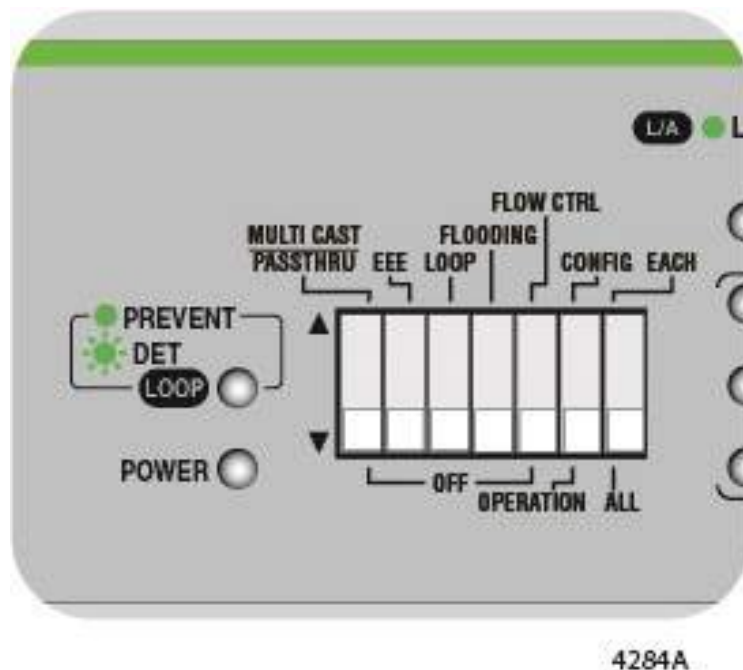

Figure 46. DIP Switch Settings for Disabling EEE
1. Set DIP switch # 2 to the DOWN position to disable this feature. See Figure 46.